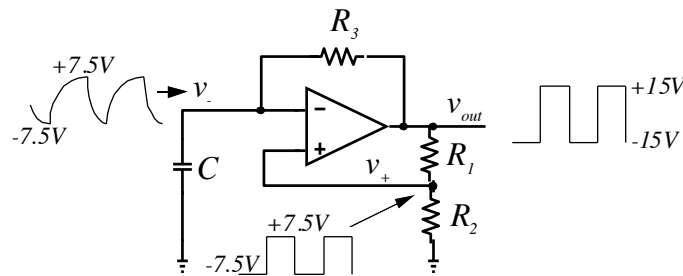

Figure 1.11: Circuit schematic of the astable multivibrator.
- PE2. Perform a transient (time domain) simulation of the Astable Multivibrator in Figure 1.11 using values from step E6 in the experiment section and run the simulation for 20ms.
Finally, consider what happens when we place a capacitor and a resistor as shown in Figure 1.11. This circuit will provide a periodic signal by switching back and forth between the maximum positive and negative output voltages (V_{omax}). To analyze this circuit, first assume that $v_{out} = +15\text{ V}$, thus making $v_+ = 7.5\text{ V}$. Since v_{out} is positive, capacitor C will charge through R_3 until v_- reaches v_+ . At that moment, v_{out} will switch to -15 V and v_+ will be -7.5 V . The negative v_{out} discharges the capacitor and v_- decreases. When v_- reaches v_+ , v_{out} will switch back to $+15\text{ V}$ and the cycle starts all over again.